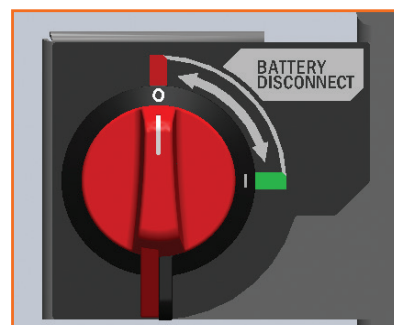

FIGURE 3-1. BATTERY DISCONNECT SWITCH
2. Turn on Battery Disconnect Switch, located on the streetside of the unit (*Figure 3-1*).